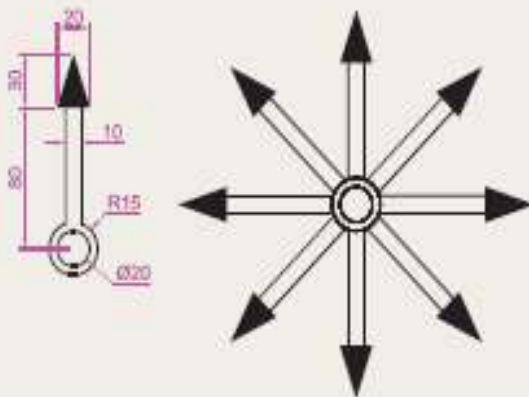

Fig. 5.51 Exercise 5
5. Construct the arrow shown in Fig. 5.51. Array the arrow around the centre of its circle 8 times to produce the right-hand drawing of Fig. 5.51.